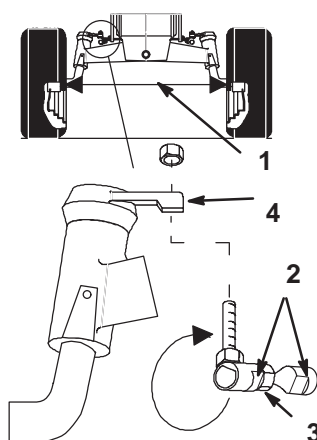

Figure 28
Maintain toe-in of the front wheels as specified. If uneven tire wear, lawn scuffing or hard steering develop adjustment may be required. Check the toe-in every year before storage (Fig. 28).
4. Measure, between the rims, at spindle level, in the front and rear of the wheels (Fig. 28).
2. Remove ball joint from one steering lever (Fig. 28).
4. Hold flats on ball joint to align with flats on tie rod and tighten jam nut (Fig. 28).